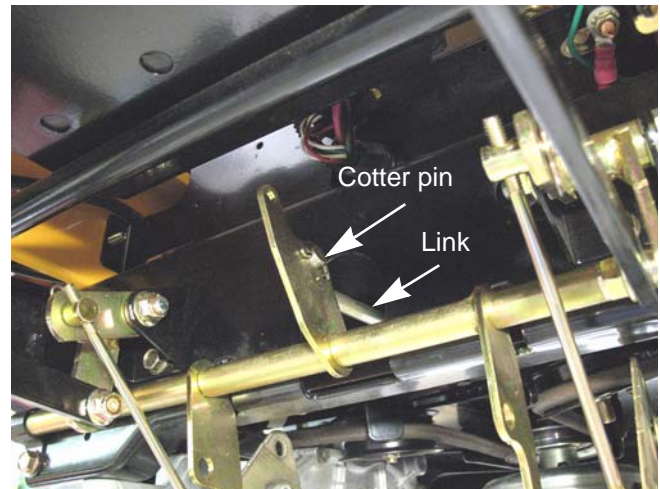

Figure 3.12
5. Disconnect the link that runs from the idler bracket to the brake shaft by removing the cotter pin. See Figure 3.12.